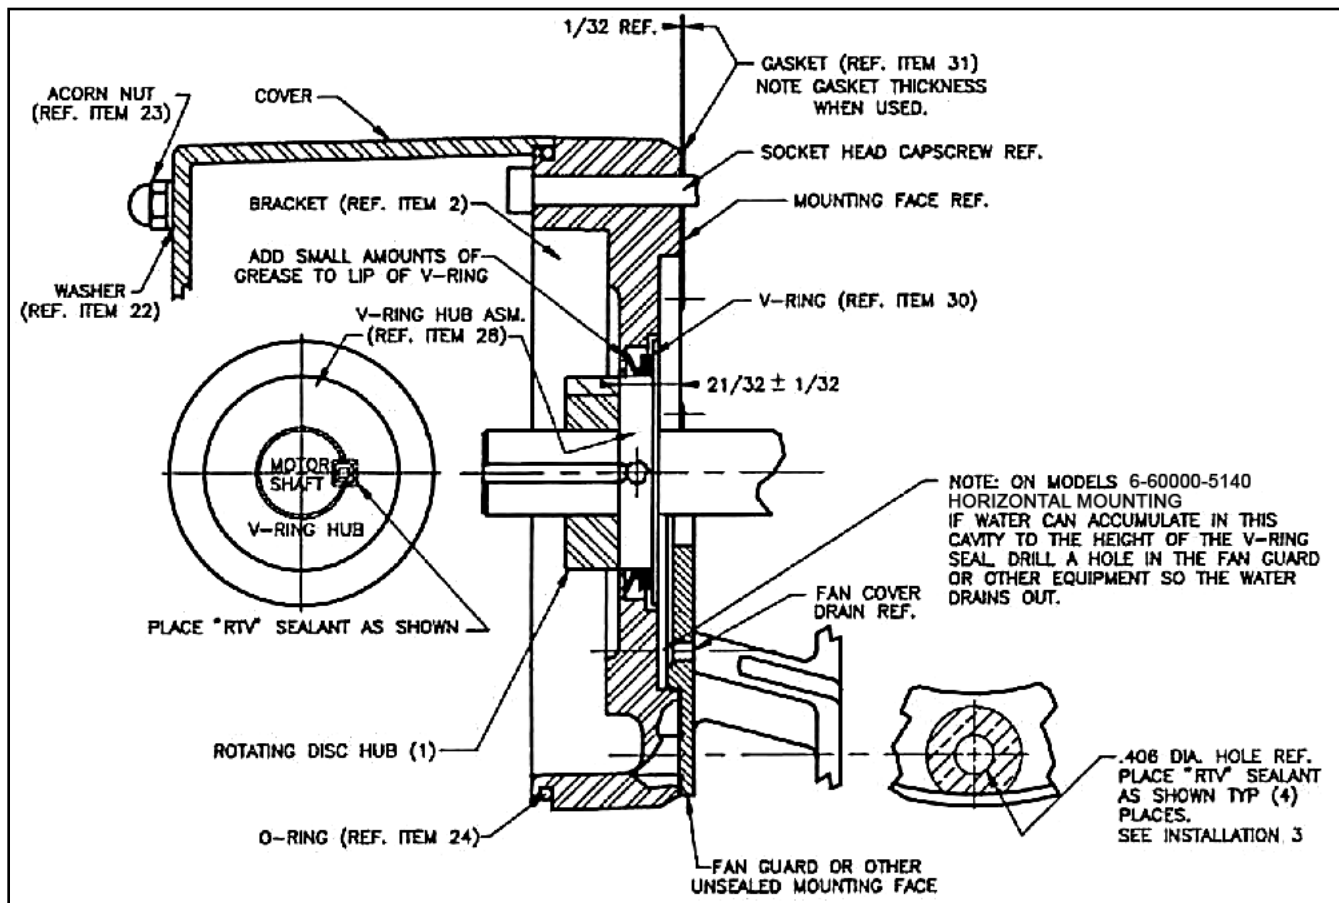

Figure 2
Numbers in parentheses refer to parts illustrated in Figs. 2, 4 and 10.
1. Place rotating disc hub (1), with key, onto motor shaft with part number facing away from motor to dimension shown in Fig. 2 ( $2\frac{1}{32} \pm \frac{1}{32}$ ). Measure from brake mounting face as shown.
1. Remove V-ring (30) from V-ring hub assembly (28).
2. Place V-ring hub assembly (28) onto motor shaft with part number facing away from motor to dimension shown in Fig. 2 ( $2\frac{1}{32} \pm \frac{1}{32}$ ).
4. Replace V-ring (30) onto V-ring hub assembly as shown in Fig. 2. Apply a small amount of grease to lip of V-ring.
5. Place rotating disc hub (1) with key if not already in place, onto motor shaft with part number facing away from motor to dimension shown in Fig. 2 ( $2\frac{1}{32} \pm \frac{1}{32}$ ). Rotating disc hub will butt against the V-ring hub as shown.
1. Remove acorn nuts (23), washers (22), and cover (20). Place brake on motor mounting face aligning hub splines into brake disc splines. Make sure gasket (31) is in place. Drain plug (25) to face down on horizontal models.
NOTE: for models 6-60000-5140 only: If gasket (31) does not make contact around mounting face totally (360°), exclude gasket (31) and place RTV sealant around mounting bolt holes to approximately 1" dia. as shown in Fig. 2. Use Dow Corning #739 RTV only; other types may form acetic acid during curing if subjected to water or high humidity. This will cause premature failure of zinc plated parts.
You may have to add drain in fan guard or other equipment as shown in Fig. 2.